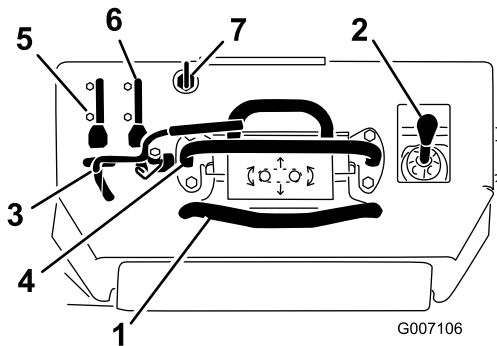
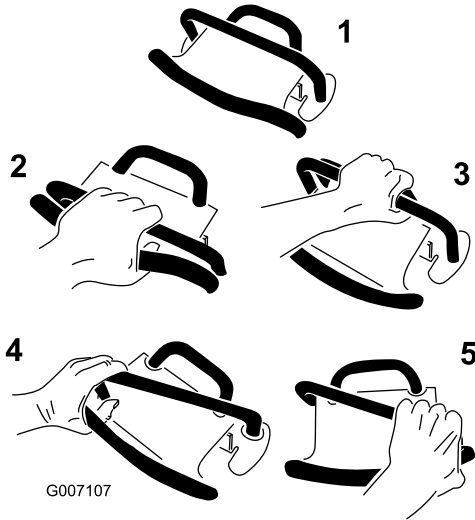

Figure 7
Figure 8
Become familiar with all the controls (Figure 7) before you start the engine and operate the traction unit.
- To move forward, move the traction control forward (number 2 in Figure 8).
- To move rearward, move the traction control rearward (number 3 in Figure 8). **When reversing, look behind for obstructions and keep your hands on the reference bar (Figure 7).**
- To turn, rotate the traction control in the desired direction (number 4 and 5 in Figure 8).
- To stop, release the traction control (number 1 in Figure 8).